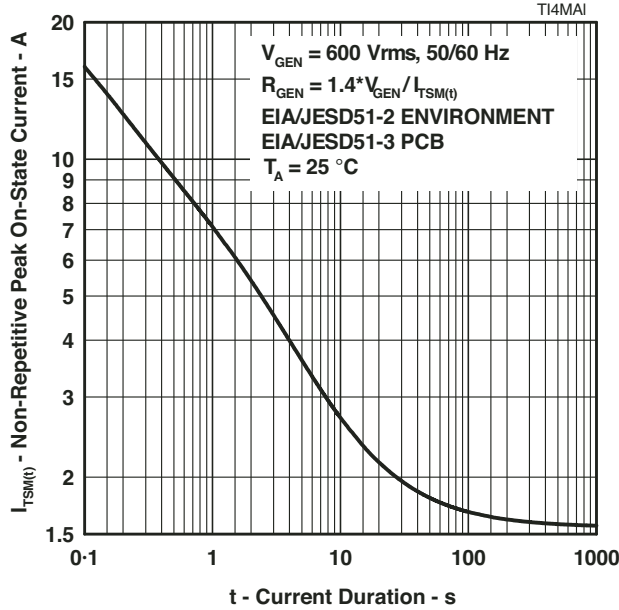

Figure 9.
5. EIA/JESD51-2 environment and EIA/JESD51-3 PCB with standard footprint dimensions connected with 5 A rated printed wiring track widths. See Figure 9 for the current ratings at other durations. Derate current values at $-0.61\text{ }^\circ\text{C}$ for ambient temperatures above $25\text{ }^\circ\text{C}$.
The protector can withstand currents applied for times not exceeding those shown in Figure 9. Currents that exceed these times must be terminated or reduced to avoid protector failure. Fuses, PTC (Positive Temperature Coefficient) thermistors and fusible resistors are over-current protection devices which can be used to reduce the current flow. Protective fuses may range from a few hundred milliamperes to one ampere. In some cases, it may be necessary to add some extra series resistance to prevent the fuse opening during impulse testing. The current versus time characteristic of the overcurrent protector must be below the line shown in Figure 9. In some cases, there may be a further time limit imposed by the test standard (e.g. UL 1459 wiring simulator failure).